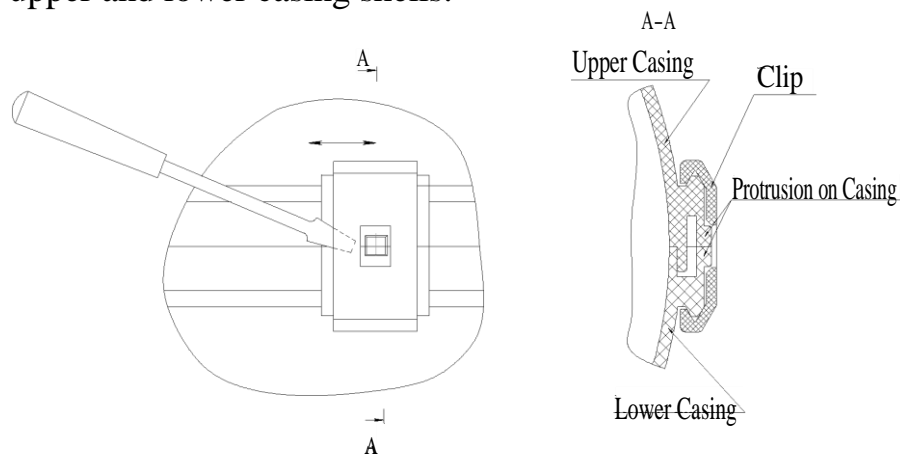

Fig.1- Removal of clips from casing .
- a) Remove clips. To remove clip, use screwdriver (with a thin tip) to pry the clip out and slide it left or right for full release (Fig. 1);
- remove upper and lower casing shells (Fig.1);